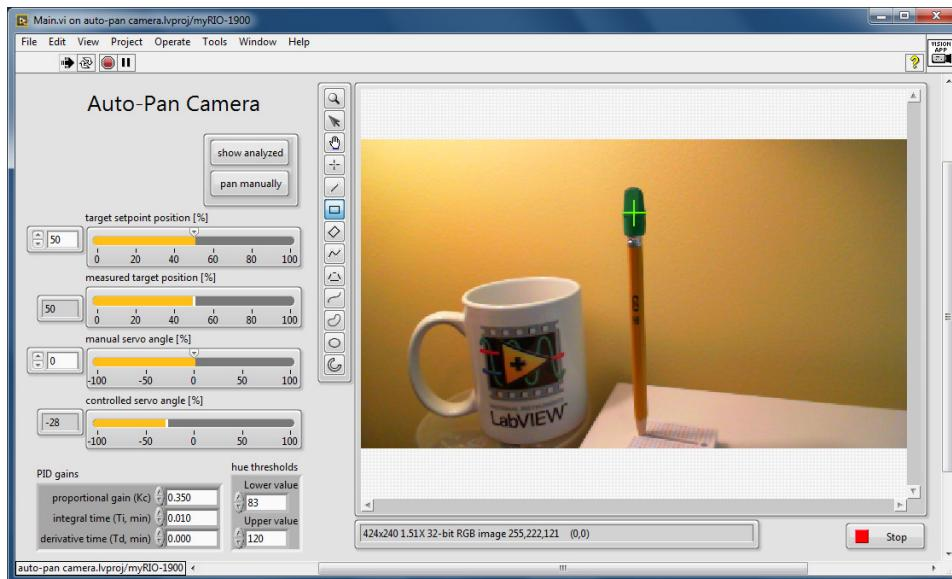
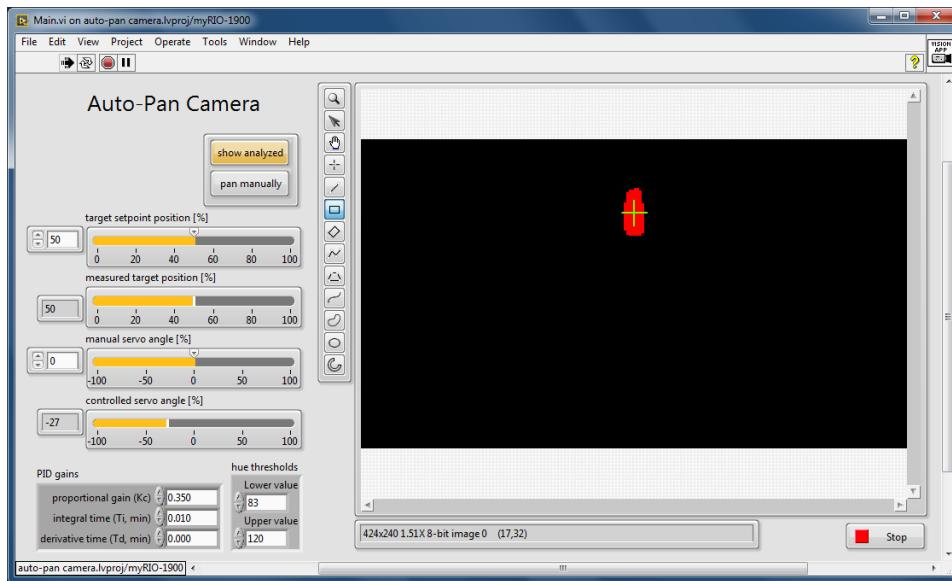

Figure 16.1: Front panel of the Auto-Pan Camera application.
Figure 16.2: Front-panel for the *Auto-Pan Camera* application showing the output of the Vision Assistant script.
Figure 16.1 on the preceding page shows the front-panel of the *Auto-Pan Camera* application viewing a pencil eraser as the tracked object. Figure 16.2 on the next page shows the corresponding image produced by the Vision Assistant script.
- PID gains – Create a front-panel control and set the values to those shown in Figure 16.1 on page 111, and